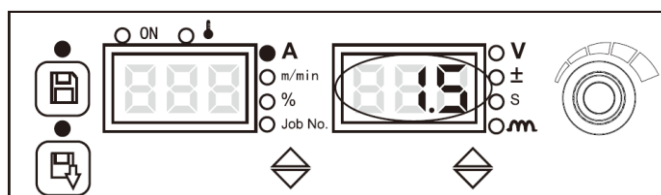

Figure 3-26 Screen for adjustable voltage range lock
4. On the screen for adjustable voltage range lock, according to the flashing digital tubes as reminding, use the knob on the panel of welding power source to set the adjustable voltage range, as shown in Figure 3-26, with the default adjustable current range locked as $\pm 1.5V$, and press the **Invoke** key for confirmation, and it will automatically go to the screen for parameter range lock.